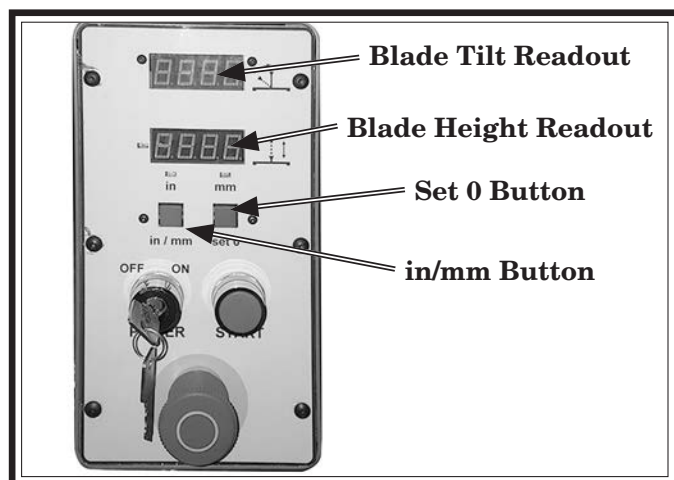

Figure 142. Blade adjustment digital readout.
2. Set blade angle to 90° and press 'set 0' button for several seconds until the readout displays '0' (see **Figure 142**).